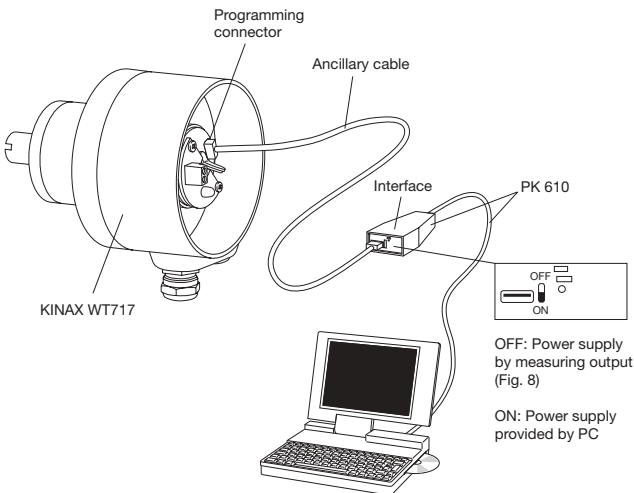
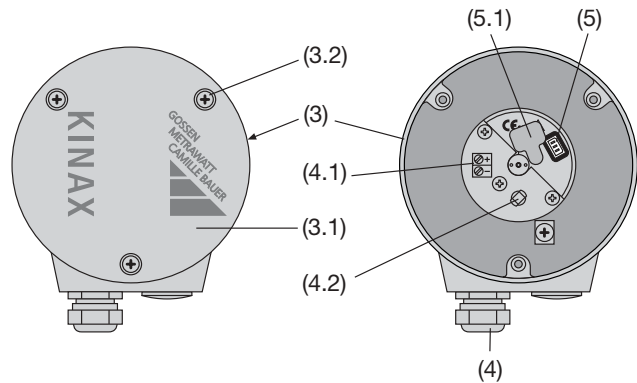

Fig. 5
Fig. 7. Rear (3) with terminals (4.1) and cable glands (4).
1. Remove the cover (3.1 in Fig. 7). Remove the rubber cover (5.1) to gain access the programming connector (5), (see section "7.1 Connecting transmitter"). Connect the KINAX WT 717 to the programming device according to Fig. 5. Start the 2W2 configuration software. If necessary, configure the device with the required measuring range data.
1. Put the transmitter into operation and connect the programming device according to Fig. 5 (AUX switch on the PK 610 on the OFF position).